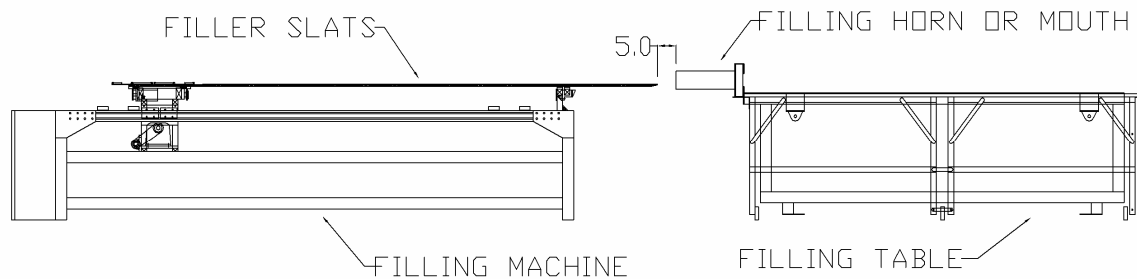

Figure 2.2: Setting the critical distance between the slats and the mouth
Attach four (4) machine legs to the table. Position the mouth of the table no farther than 5 inches from the slats when the carriage is in the home position (See Figure 2.2). ABM strongly recommends that the table be bolted to the floor.